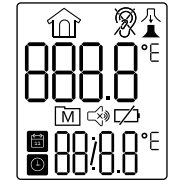

Figure 2
- The device now performs an internal self-test and all display segments will be displayed (Figure 2).